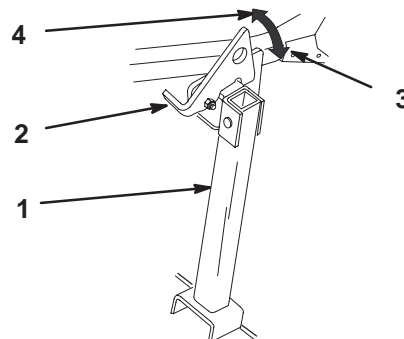

Figure 27
1. Raise latch to unlocked position (Fig. 27).